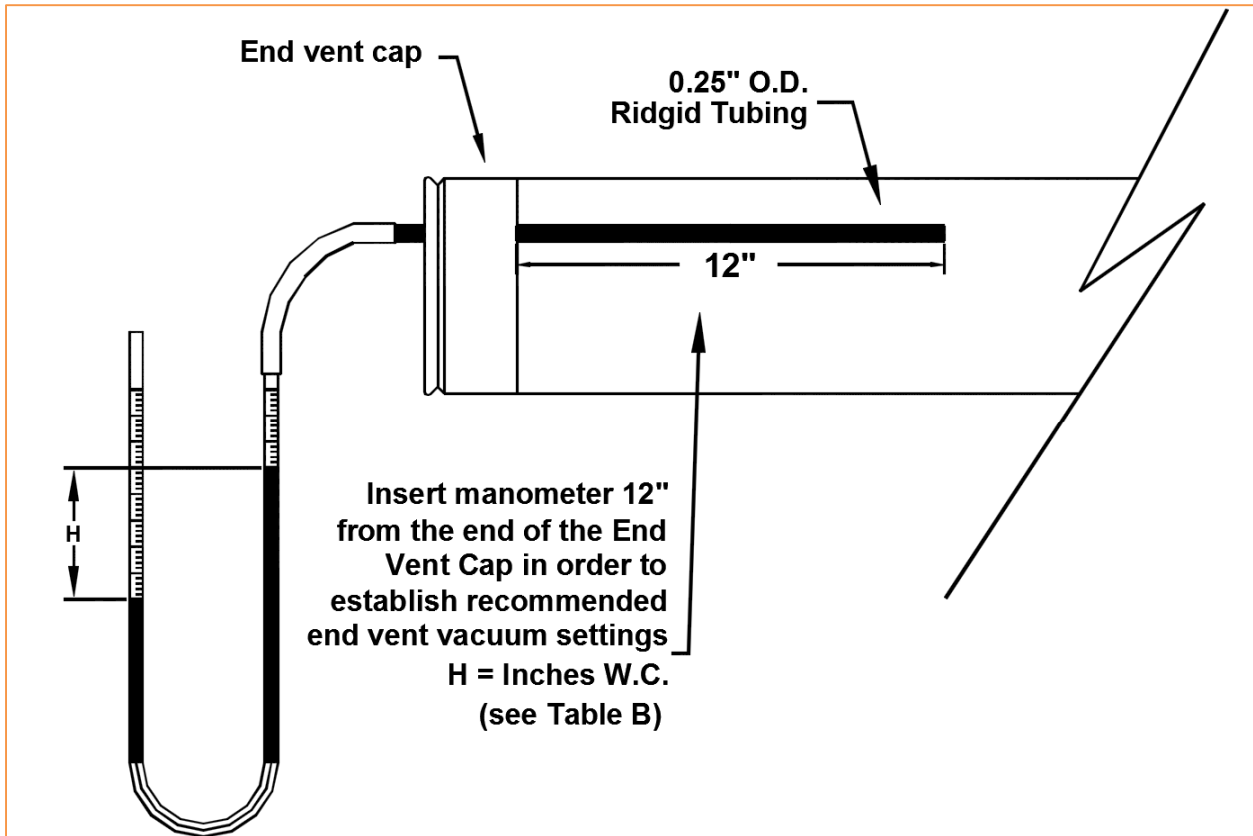

Figure 47: Manometer Placement Diagram
3. With a manometer check the vacuum at the End Vent Cap of the longest Branch. (Refer to Figure 47 for manometer positioning details.)